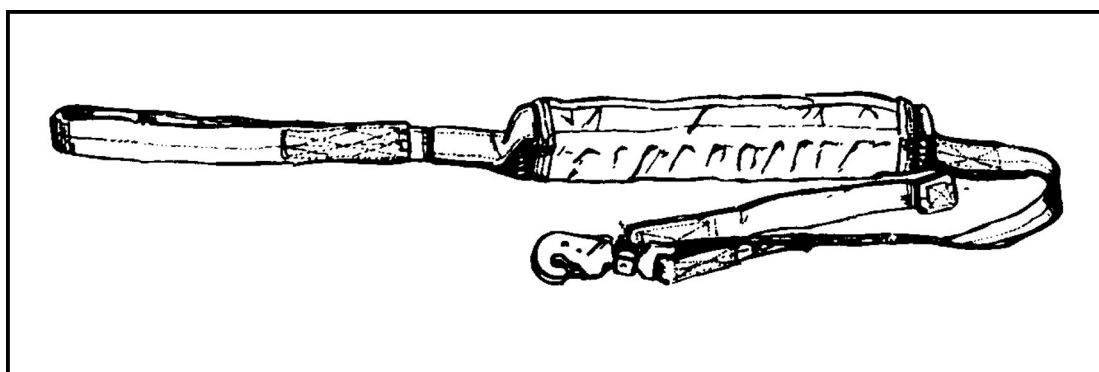

Figure 12-53. HPT lowering line stowed.
To attach the quick-release snap, the parachutist attaches it to the quick-release link that is routed through the D-ring. The opening gate should face away from the pack (Figure 12-53).
- (1) S-fold the lowering line neatly on top of the web inside the retainer, ensuring that the ends are stacked evenly with the retainer flap outer edges. Secure the pile tab on the web located at the ejector snap end to hook extension on retainer.
- (2) Fold the hook side of the flap tightly over the S-folded lowering line and, holding it firmly, fold the pile side of flap over and secure hook and pile together.
- (3) Secure the pile extension on the flap retainer to the hook tab at the loop end of the lowering line (Figure 12-53).